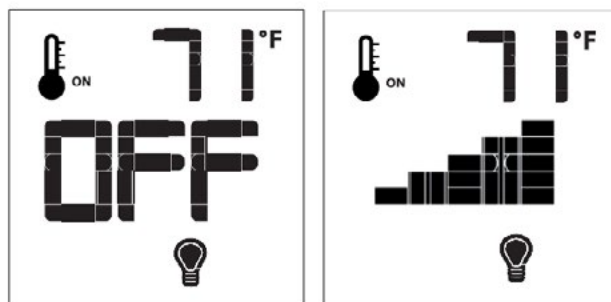

Figure 29.n Light Control
The function controls the power outlet by the dimmable light control. To activate this function use the Mode Key (fig. 29.n) to index to the LIGHT icon (fig. 29.n). The intensity of the output can be adjusted through six (6) levels. Use the Up/Down Arrow Keys (fig. 29.n) adjust the output level (fig. 29.n). A single "beep" will confirm reception of the command.